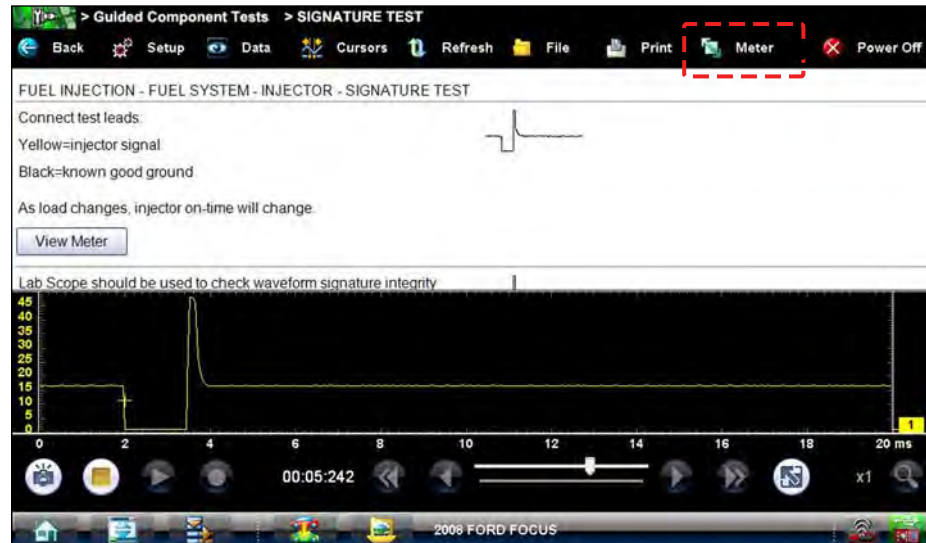

Figure 7-7 Sample view meter window
- **View Meter**—opens a live meter set up to perform the test in the lower portion of the screen (Figure 7-7). Once the meter view is open, the Guided Component Test toolbar at the top of the screen is replaced by the Scope Multimeter toolbar, which allows you to make adjustments to the settings. See Scope Multimeter Toolbar on page 101 for details.
A Meter icon, which is only available in the Guided Component Test view meter mode, appears on the upper toolbar (Figure 7-7).
1. With View Meter active (Figure 7-7), tap the toolbar **Meter** icon once and the meter expands to fill the entire screen.
3. Tap the **Meter** icon a third time to close the window and return to the standard view as shown in Figure 7-7.